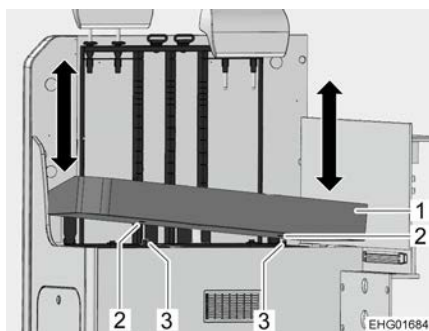

Fig. 29 Removing cushions
- Lift the cushion (Fig. 29,1) on one side and tilt it slightly until the first pin (Fig. 29,3) is released.
- Lift the cushion on the other side until the second pin (Fig. 29,3) is released.
- Position the cushion (Fig. 29,1) at an angle, ensuring that both recesses (Fig. 29,2) are carefully aligned over the two pins (Fig. 29,3).